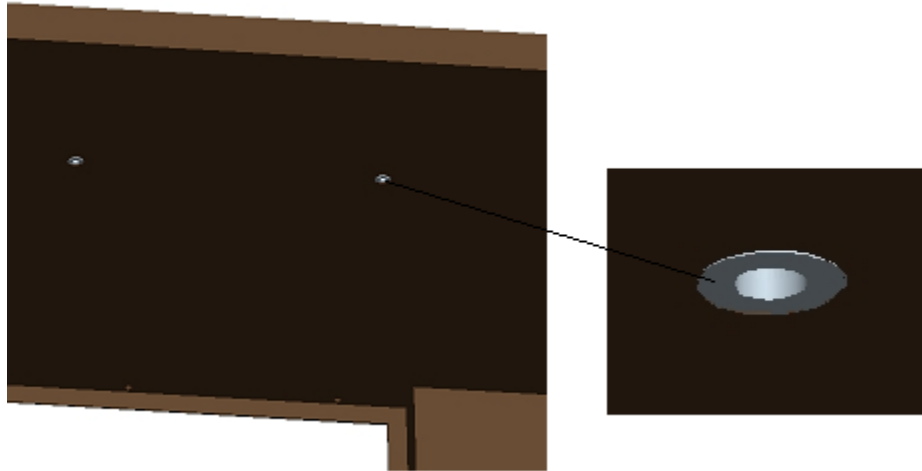

Fig. 2.3 Installing Thread Inserts
- Install 2 pieces of 1/4" ID wood thread inserts on the ceiling as shown in Fig. 2.3.